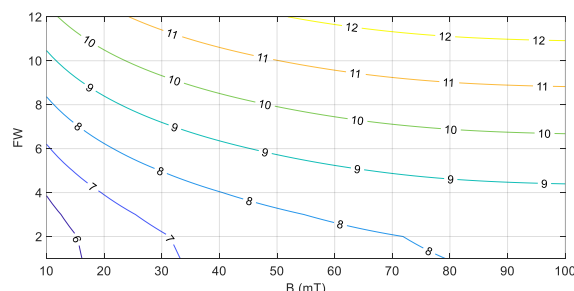

Figure 25: Resolution as a Function of Magnetic Field and Window Size
The filter window (FW) determines the effective resolution (defined as the $\pm 3\sigma$ noise interval). Figure 25 shows the effective resolution for different window size (FW) and magnetic field (B).